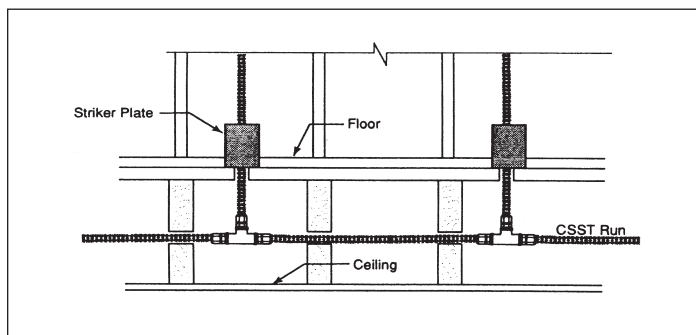

Figure: 4-16 Multiple outlets along main tubing run
3. Multiple gas outlets --When multiple outlets are supplied from a single run of piping, each downstream outlet branch can be connected to the main run using a tee fitting, which can be concealed (See Figure 4-16).